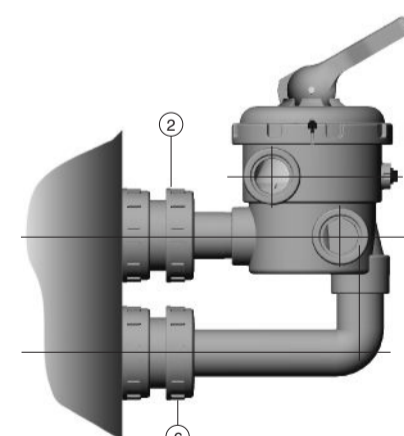

Fig. 4
1. Place the flat rubber seal (3) into the valve port marked TOP. Screw the union (1) into the valve port having passed it through the coupling (2). Tighten the union (1) firmly to ensure a good watertight joint.
2. Fit the selector valve to the upper filter outlet, ensuring that the o-ring (4) is in place between the filter and the valve assembly. Gently tighten the coupling (2) ensuring that the lower port of the valve remains perpendicular to the floor.
3. Fit the elbow (5) with the coupling (6) and the seal (4). Do not use adhesive at this stage.
4. Gently tighten the couplings (6) and (2) as shown in figure 4. Note the area of the elbow used for adhesive jointing. Unscrew coupling (6) and remove the elbow (5), clean the jointing area with solvent and apply the correct adhesive (ABS solvent cement). Re-assemble as shown in figure 4 and leave to dry for at least 2 hours before using.
4. Viser légèrement l'écrou (6) et serrer fermement l'écrou (2) (figure 4) afin d'obtenir un parfait alignement de la vanne. Démontez l'écrou (6) et le coude (5) et nettoyez les endroits du collage avec du dissolvant. Appliquez la colle pour ABS sur le coude et sur la vanne. Positionner à nouveau selon figure 4 en serrant l'écrou (6) et laissez sécher 2 heures avant de mettre l'installation en fonctionnement.